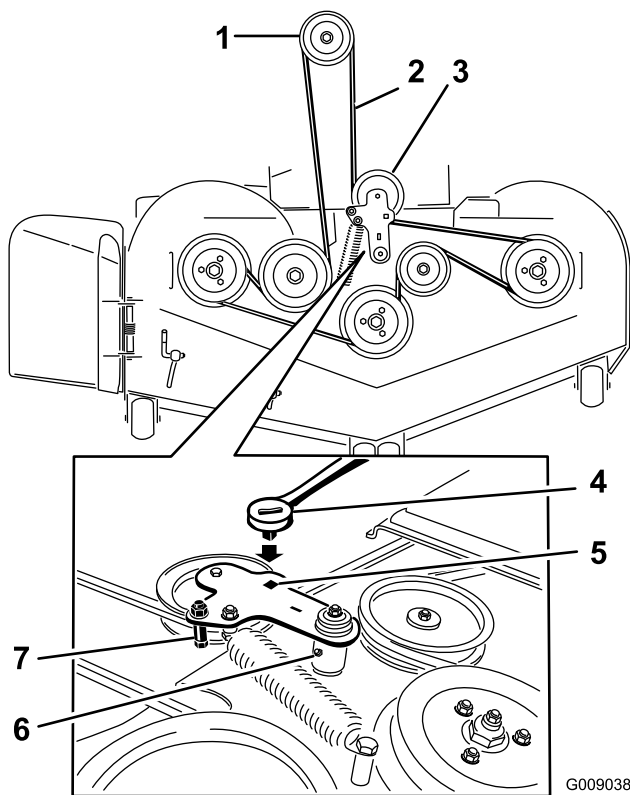

Figure 100
- Lift up the floor pan and insert a ratchet into the square hole in the deck idler (Figure 100).
- Rotate the deck idler clockwise and remove the mower belt (Figure 100).